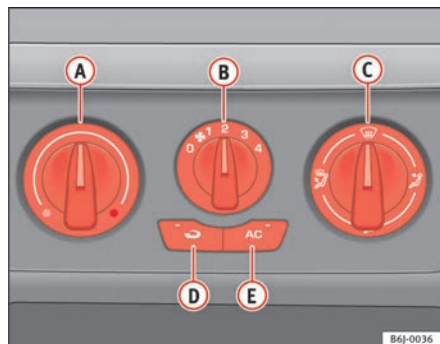

Fig. 87 On the dash panel there are the heating controls
- Using the controls ⇒ fig. 87 **A** and **C** and with the switch **B** you can adjust the temperature, the air distribution and the blower speed.